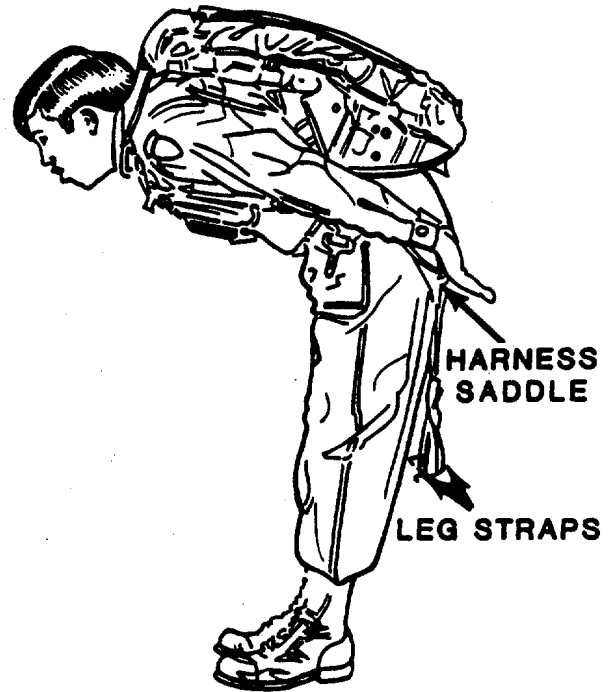

Figure 2-3. Positioning the Sling Saddle, Typical.
(5) Bend at the waist and using the hands, pull the harness saddle under the buttocks (fig. 2-3). Adjust the main lift webs until the harness saddle fits under buttocks snugly.